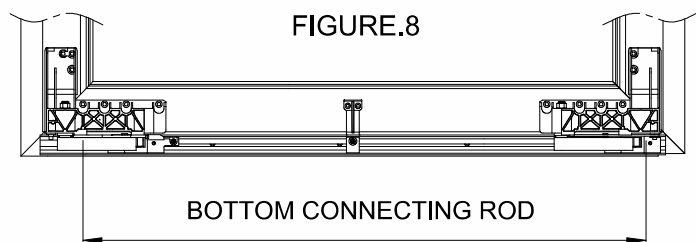

FIGURE.8
- a- Calculate rod length by means of the formulation in Figure.8 and cut pursuant to the measure obtained.